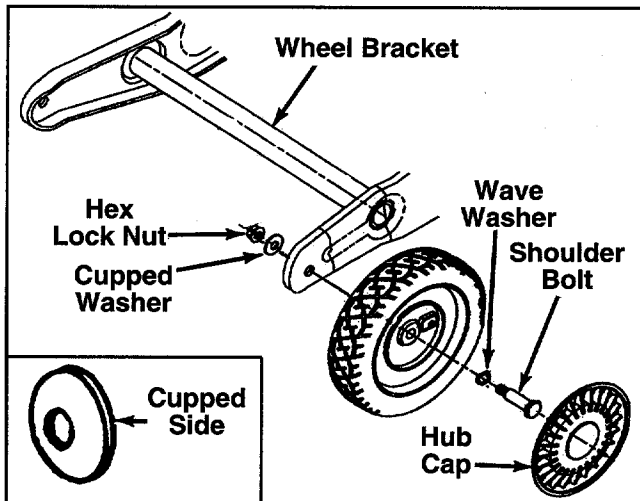

FIGURE 2.
2. Remove the hex lock nuts and shoulder bolts from the front of the wheel brackets. See figure 2.
NOTE: Cupped side of the washer goes against the chipper chute. See figure 2 to identify cupped side of washer.